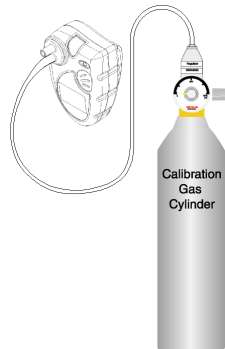

Figure 3.4: Proper bump-test/span calibration set-up for toxic sensor-equipped instruments
4. Apply the calibration gas as shown in figure 3.4.
2. Apply calibration gas as shown above in figure 3.4. Once calibration gas is detected, the readout will change to show the gas reading. Note that the negated horn symbol is shown at lower left to indicate that the alarms are not operating because the instrument is in calibration mode.
1. Apply "Zero Air" calibration gas to the instrument as shown above in figure 3.4 for at least 15 seconds or until the readings fully stabilize.